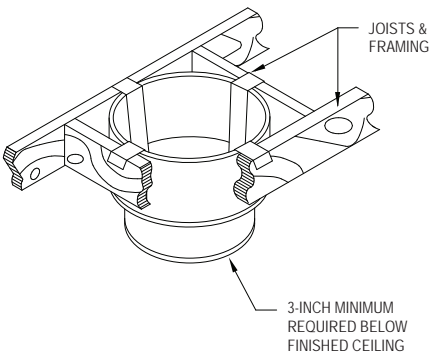

Figure 4
properly). Level the Support Box and secure it to the framing using at least three 8-penny nails per side (min. of 12 total). Wrap the straps of the Support Box around the framing members (**Fig 4**), and secure with (2) 8-penny nails per side (eight nails total). Alternatively, you may use 1-1/2" #8 wood screws (min. of 12 total for the Support Box, and 8 total for the straps), instead of nails. Next, secure the round or square Trim Collar to the ceiling/ framing members using (4) 1" long, round-head wood screws.